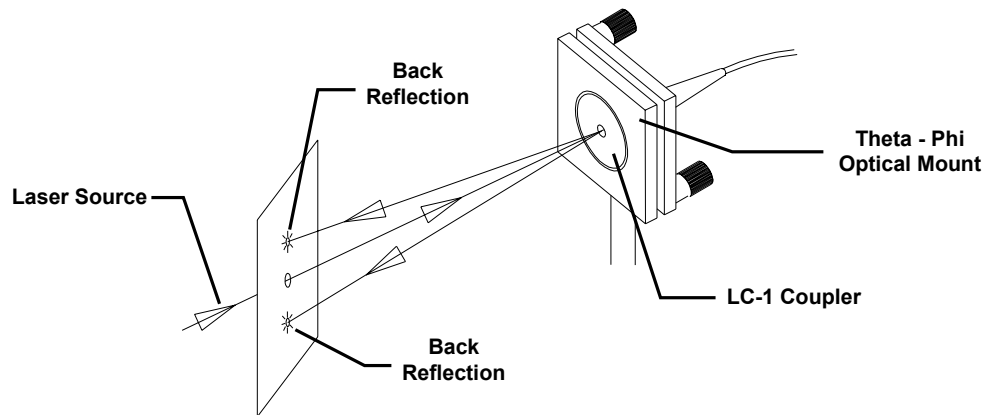

Figure 3.3: LC-1 Fiber-Optic Input Coupler Alignment
- 3 Two back reflections from the LC-1 coupler should be visible near the laser's output aperture. They can also be seen by placing a white card (with a hole in the center) in the beam path as shown in Figure 3.3. Adjust the optical mount until the reflections symmetrically straddle the input beam.